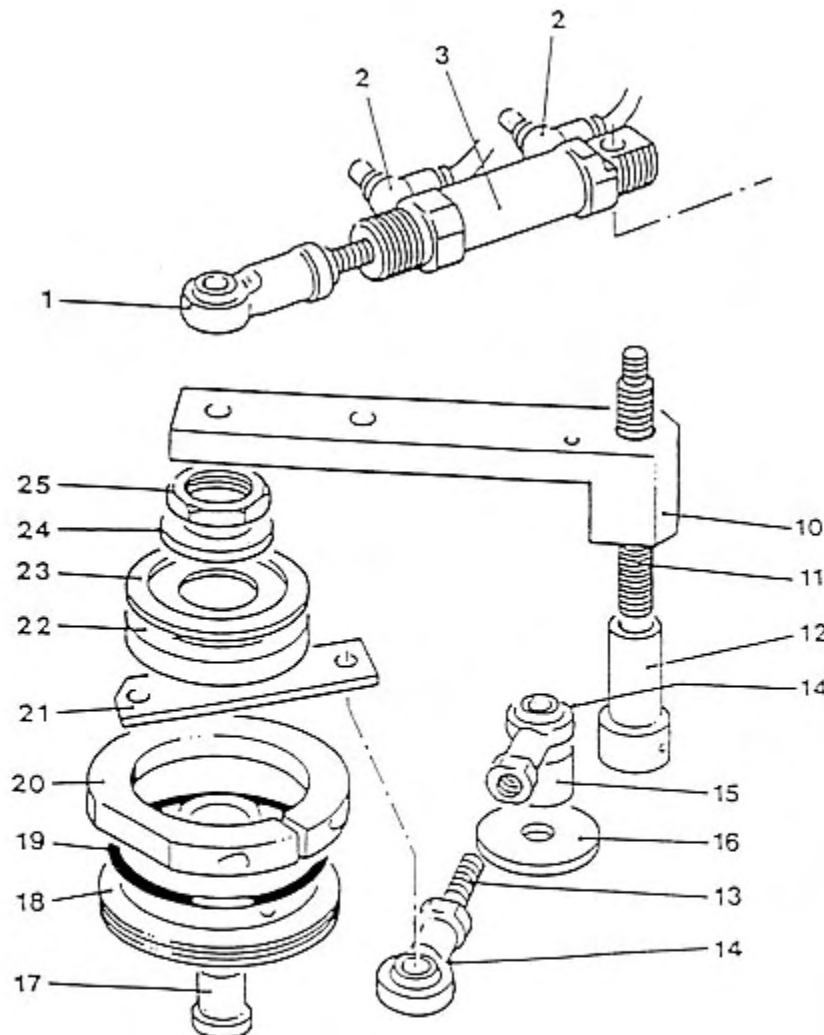

Figure 4.1
b) *Drive Wheel Assembly (Figure 4.1)*
c) *Drive Wheel Cylinder (Figure 4.1)*